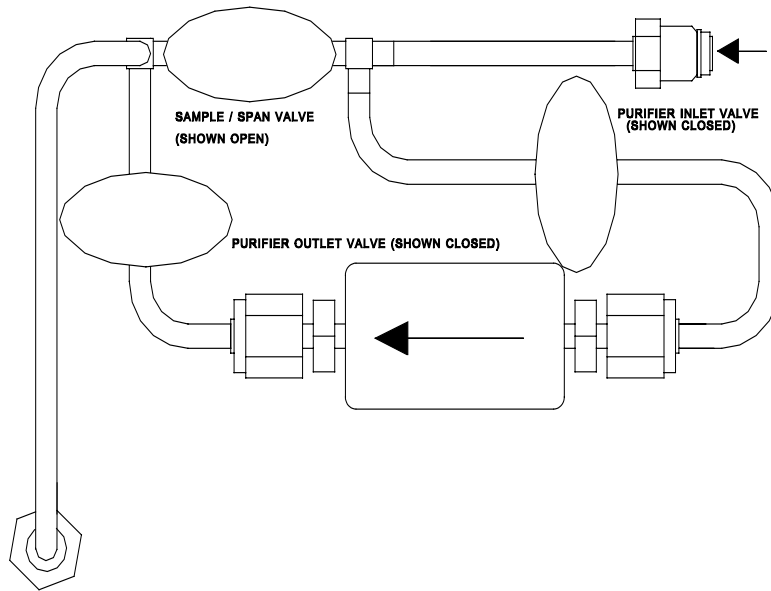

Figure 53: Valve Handle Positions When Changing the Gas Purifier
1. The analyzer must be in the process measurement mode by placing the valve handles in the positions as shown in Figure 53: Valve Handle Positions When Changing the Gas Purifier
5. Install the purifier with the flow direction arrow as shown in Figure 53. It may be necessary to slightly spring the calibration system plumbing to insert the gas purifier.